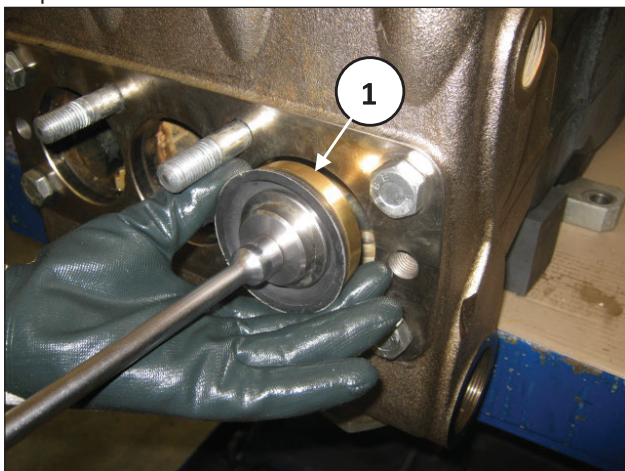

Fig. 135
With the aid of a T-handle wrench, insert the piston seal pack inside the cylinder (pos. ①, Fig. 135) with the piston spacer unit at TDC, taking care not to damage the seal lip. Screw the M8 screws in so that the seal pack positions itself in the seat and tighten it with the tightening torque contained in chapter 3.